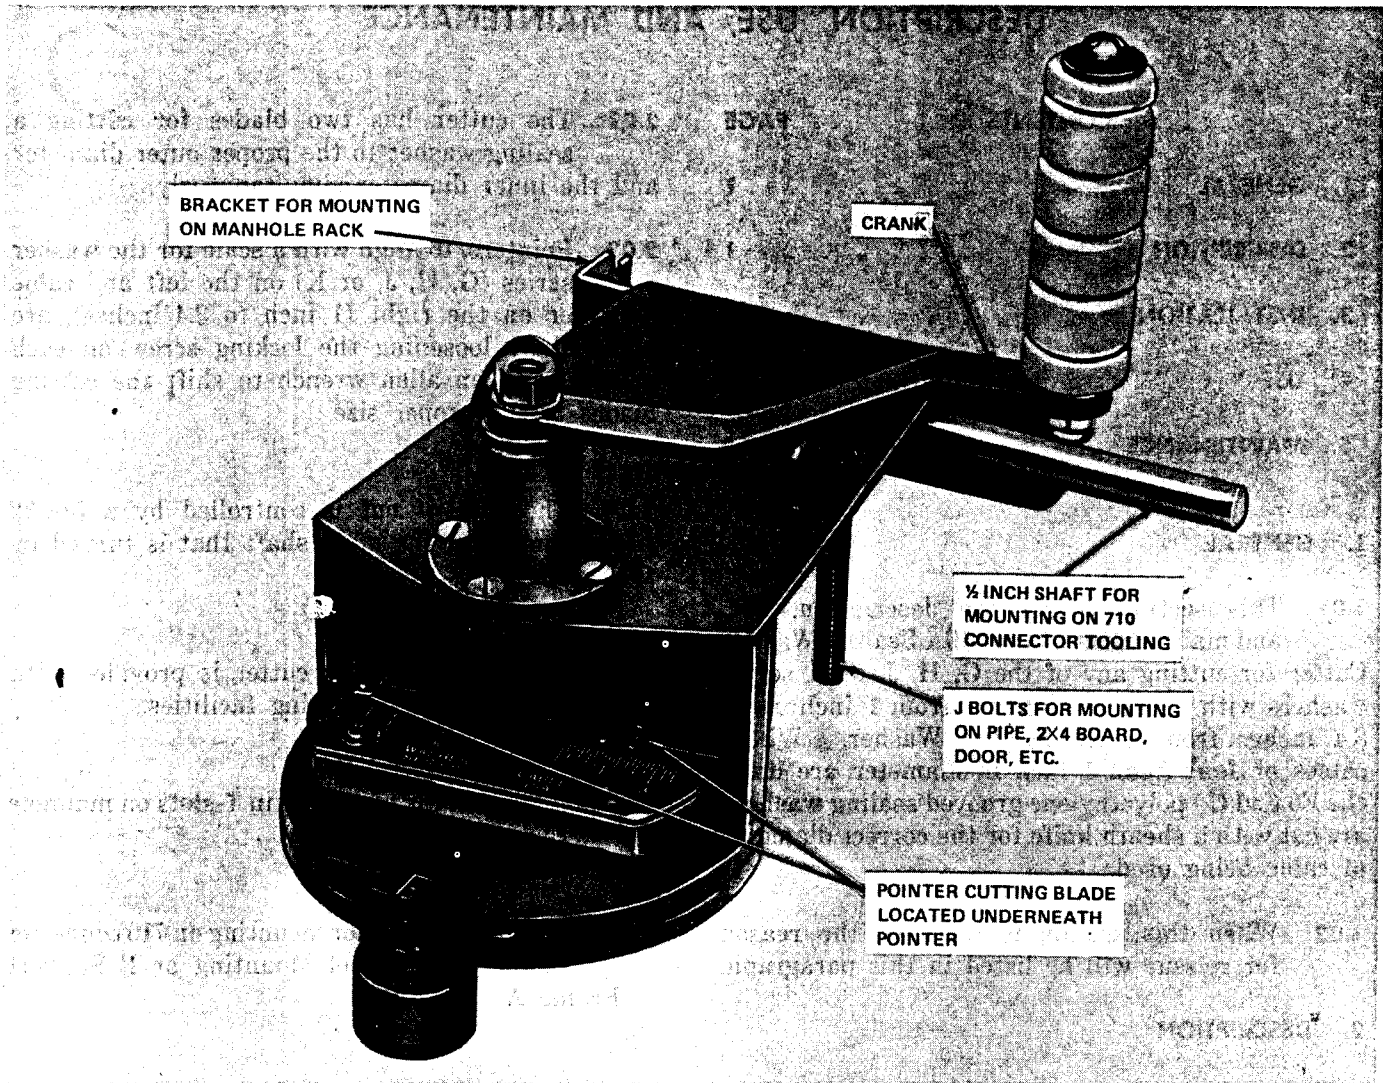

Fig. 1—849A Sealing Washer Cutter
2.01 The 849A Sealing Washer Cutter is shown in Fig. 1.